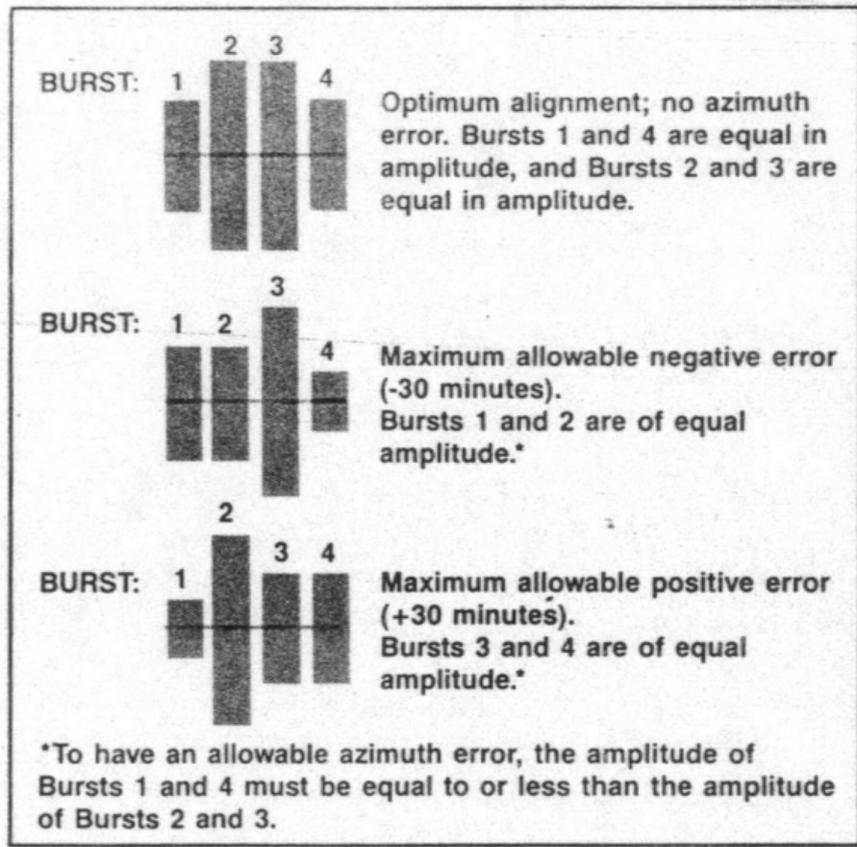

Figure 4. Azimuth Burst Pattern
5. Compare the waveform displayed with those in Figure 4. If you are aligning a two-sided drive, check both heads. If the displayed waveform indicates a head azimuth that is not within specification, adjust the azimuth in accordance with the drive manufacturer's instructions. Since head azimuth is not adjustable on some drives, head replacement may be required to correct azimuth error.